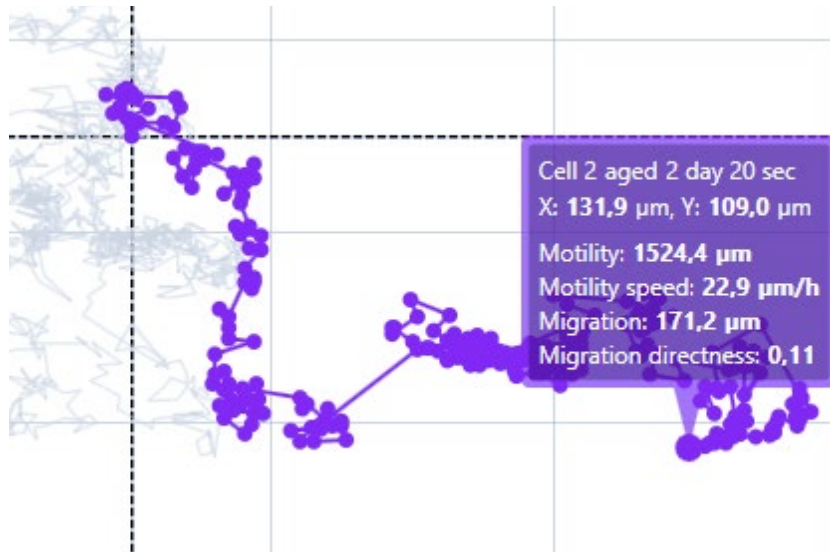

Figure 2. Information for a chosen cell.
- By hovering over the tracks, quick access to the data for each time point is achieved (Figure 2).